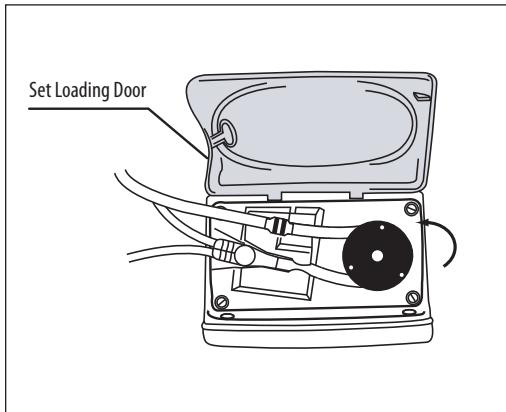

Figure 6B.
Avoid overstretching the silicone tubing. (Figure 6B).
4. Carefully pull the MISTIC retainer end left and upwards to position it over the slot on the left, and then lower the retainer into the slot. Push down on the retainer then release to ensure proper engagement. (Figure 6B)